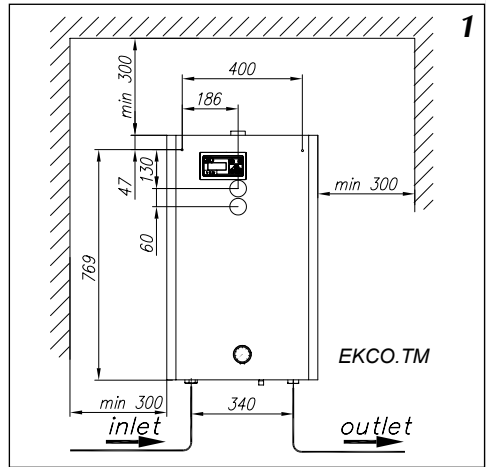

Fig.1 Fixing the boiler to the wall
1. Hang the boiler up in a vertical position on fixing screws with inlet and outlet pipes to the bottom, maintaining clearances from the walls and the ceiling (see fig.1).